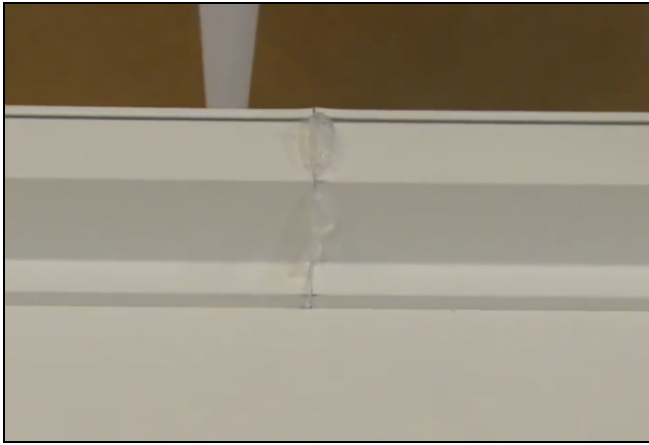

Figure 27
10. Inject both holes until squeeze out occurs on opposite sides. See Figure 27.